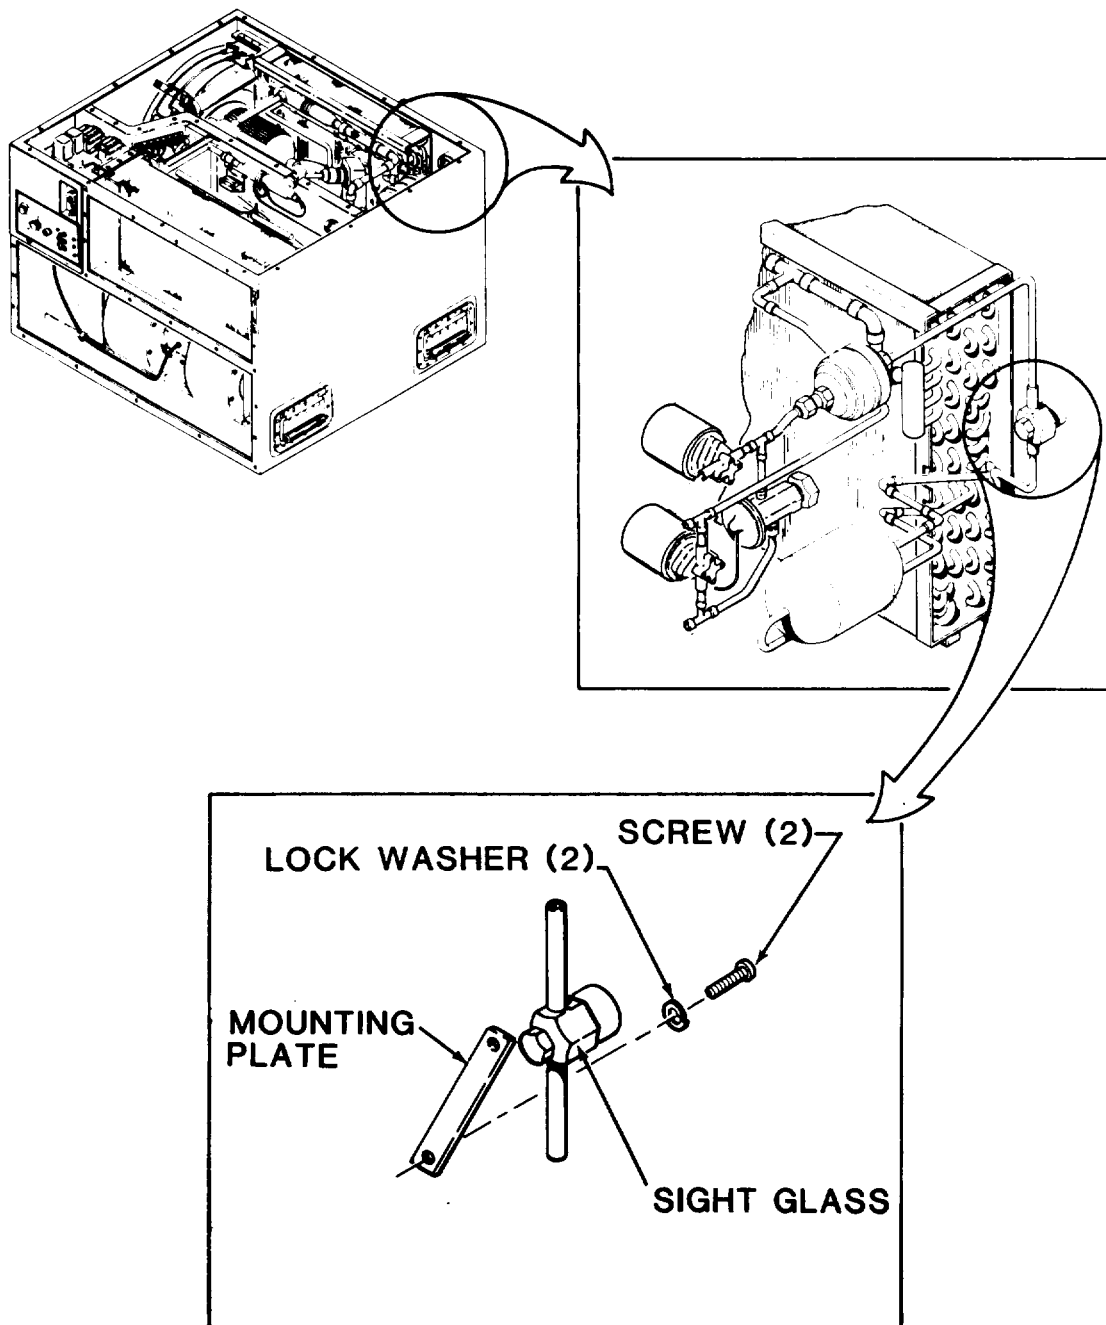

Figure 5-20. Liquid Indicator
a. Removal. (See fig. 5-20.)
- (1) Disconnect power at power source.
- (2) (Models F18H-3S and F18H-1S) Remove top rear cover (para 4-11). (Models F18H-3SA and F18H-3SB) Remove top cover (para 4-11).
- (3) Discharge and purge the refrigeration system per paragraphs 5-11 and 5-12.
- (4) Disconnect J11 from auxiliary power input plug.
- (5) Remove four screws, two clamps, and dehydrator.
- (6) Remove two screws, lock washers, and liquid indicator mounting plate.
- (7) Debraze joints and remove liquid indicator.